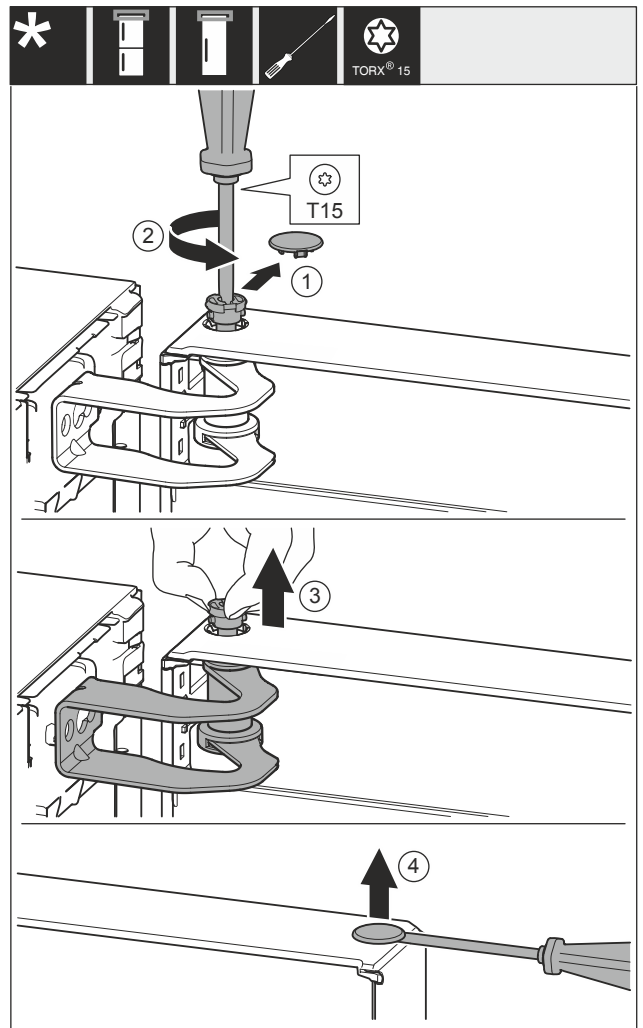

Fig. 12
- ▶ Carefully remove the cover Fig. 12 (1).
- ▶ Use screwdriver to loosen the bolts Fig. 12 (2) a little.
- ▶ Pull out the bolt Fig. 12 (3) with your fingers.
- ▶ Carefully lift and remove the cover Fig. 12 (4) with a screwdriver.